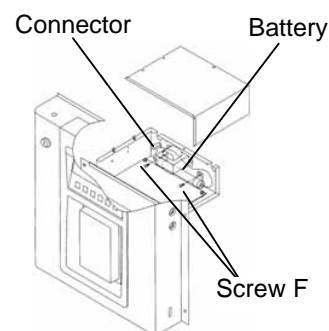

Fig. 4
4) Disconnect the battery connector and remove 2 screws (F) fixing the clips. (Fig. 4)